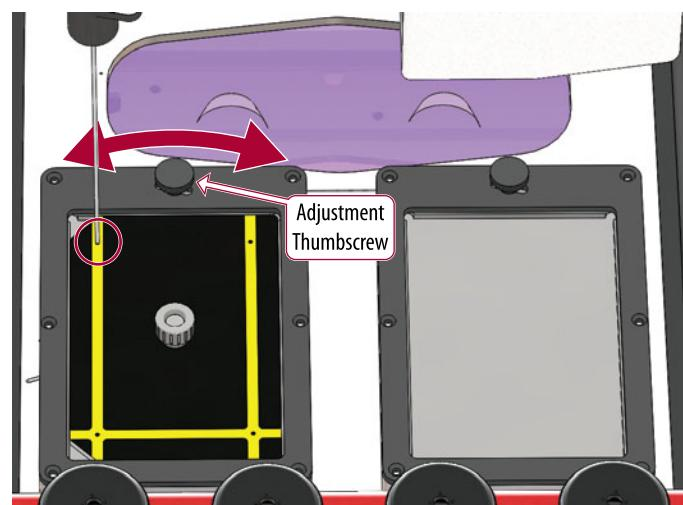

Figure 6. Align H1 position by loosening the adjustment thumbscrew and swiveling the plate left or right.
- Check to make sure the sipper tube is centered in the yellow line. If not, loosen the adjustment thumbscrew and swivel the left plate until the black dot is centered under the sipper tube (**Figure 6**). Once aligned, tighten the thumbscrew.